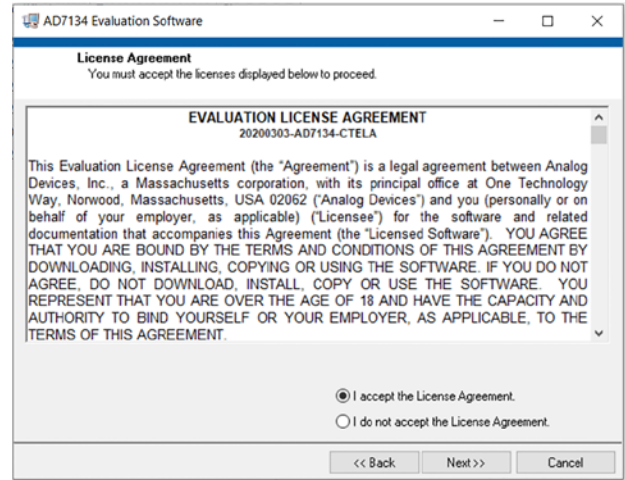

Figure 7. License Agreement
4. The **License Agreement** dialog box appears, as shown in Figure 7. Read the agreement, select **I accept the License Agreement**, and then click **Next**.